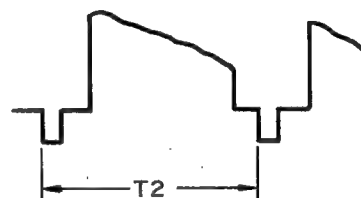

Figure 8-20.
2. Monitoring TP5 with an oscilloscope (internal trigger), adjust R737 to obtain $T_2 = 64 \pm 3\text{ms}$ as shown in Figure 8-20.
2. Monitoring TP5 with an oscilloscope (internal trigger), adjust R736 to obtain $T_2 = 64 \pm 3\text{ms}$ as shown in Figure 8-20.